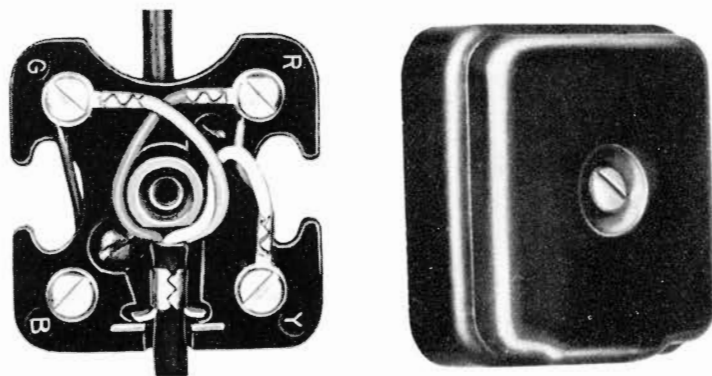

Fig. 21 — Terminating 1-5 8 Inch Cord Conductors
8.01 The 3- or 4-conductor mounting cords associated with desk-type telephone sets are normally terminated on 42-type connecting blocks (see Fig. 21, 22, and 23).